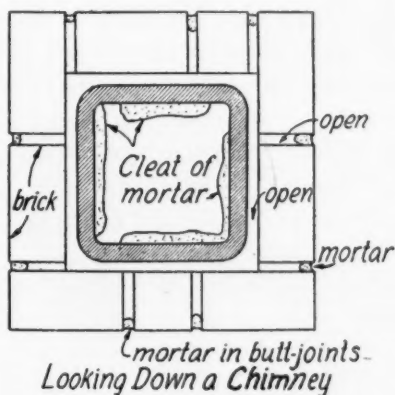

Fig. 5
*Author's Note:* When flue lining is used, care must be taken to be sure that it is of good Fire Clay material. The United States Government Bulletin No. 1230 states that "in regions where the fuel is natural gas, hot flue gases are said to have caused linings to disintegrate and crumble off. In such a case it may be necessary to use a fire clay that has stood the test, or line the chimney with fire brick." Another evil of this type of construction is the ever present and important human equation of faulty workmanship. Unless the linings are placed upon a full bed of mortar and all space between the brick and flue lining thoroughly slushed with mortar, and all vertical joints in the brickwork thoroughly filled with mortar, the chimney is sure to prove inefficient and in most cases becomes a perpetual fire hazard. Figs. 5 and 6 are typical examples of the type of workmanship that is responsible for the tremendous fire loss from defective flues.